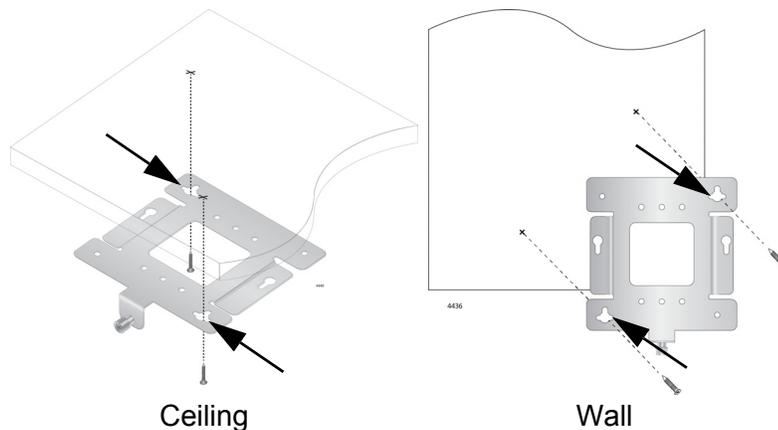

Figure 8. Marking/Pre-Drilling Holes the Mounting Bracket Key-Holes
- Using the mounting bracket as a template, mark the two key-hole slots with a pencil in the location and orientation where you want to install the access point. Refer to arrows in Figure 8.